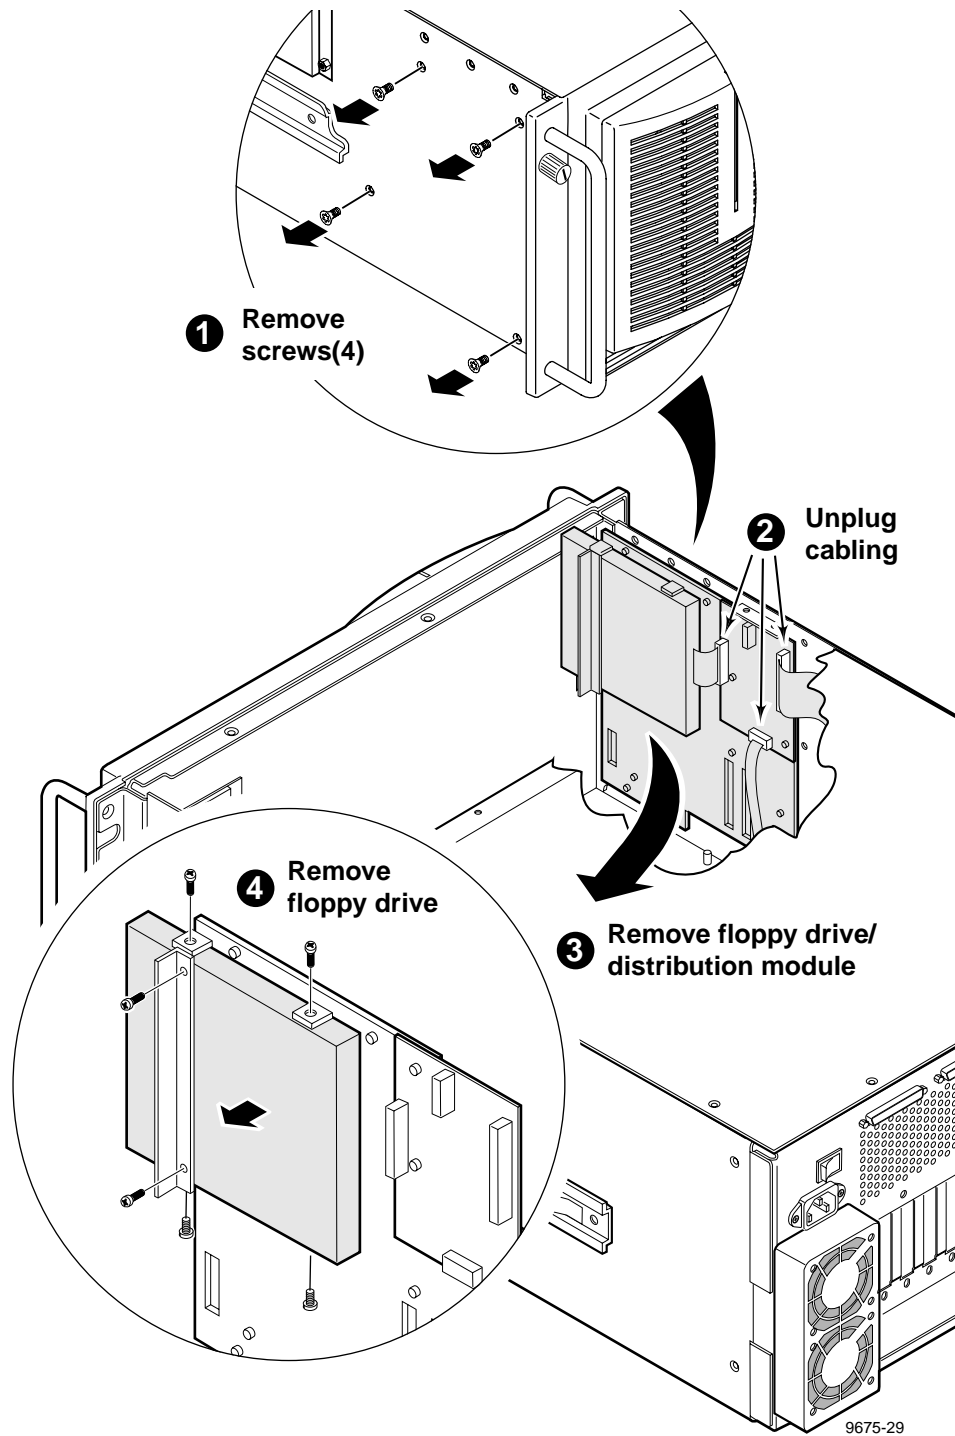

Figure 6-13. Removal of the Floppy Disk Drive
3. Being careful to support the plate, use the Torx tool with the T10 tip to remove the four screws which attach the plate to the side of the chassis (1 in Figure 6-13).
4. Disconnect the remaining cables from the Distribution board (2 in Figure 6-13).
5. Move the rear of the plate back and into the chassis to clear the floppy drive flange through the front panel slot and then lift the plate up and out of the chassis (3 in Figure 6-13). Place on a flat, level, static-proof surface with the drive and board up.
6. Use the small Phillips screwdriver to remove the screws which secure the floppy drive to the plate (4 in Figure 6-13).
1. Use the small Phillips screwdriver to attach the floppy drive to the plate with the screws previously removed (Figure 6-13).